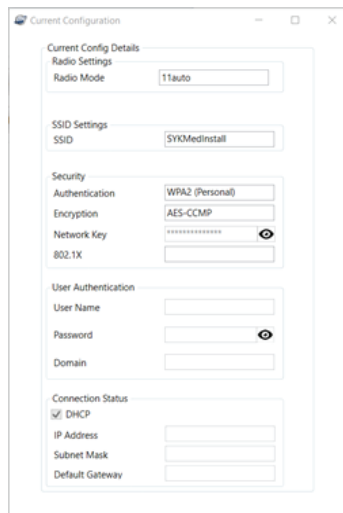

Figure 122 –
8. For the selected device, click **Get Config** in the Auto Scan window and wait for the device info window to pop up (Figure 122).